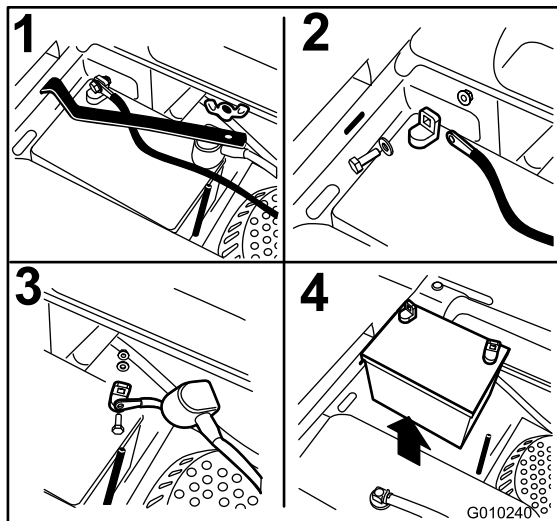

Figure 42
3. Remove the wing nut securing the battery clamp (Figure 42).
4. First disconnect the negative battery cable (black) from the negative (-)(black) battery terminal (Figure 42).
- Slide the red terminal boot off the positive (red) battery terminal and remove the positive (+)(red) battery cable (Figure 42).
- Remove the clamp (Figure 42).
- Position battery in the tray with the terminal posts opposite from the hydraulic tank (Figure 42).
- Secure the cables with 2 bolts, 2 washers, and 2 locknuts (Figure 42).
- Install the clamp and secure it with the wing nut (Figure 42).